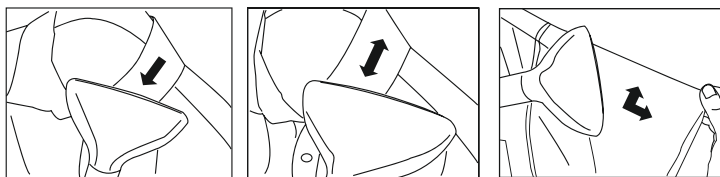

Figure 9
4. Grasp the Handle, and place the Steam Nozzle at the bottom of the collar. Slowly up to bottom On the collar. Then slowly left to right as show in (Figure 9). Repeat them until collar smooth.